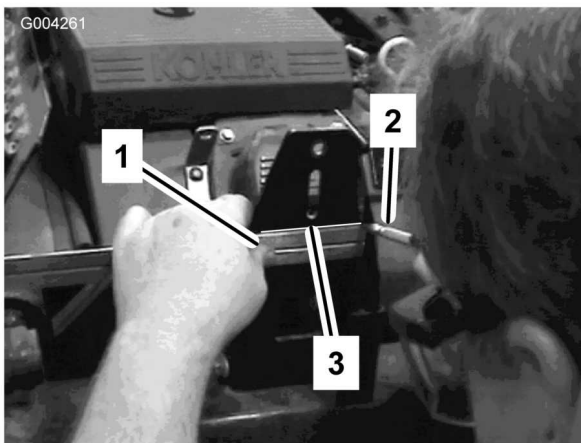

Figure 7
2. Use a square and scribe to extend the score mark to a horizontal line across the selector bracket (Figure 7).